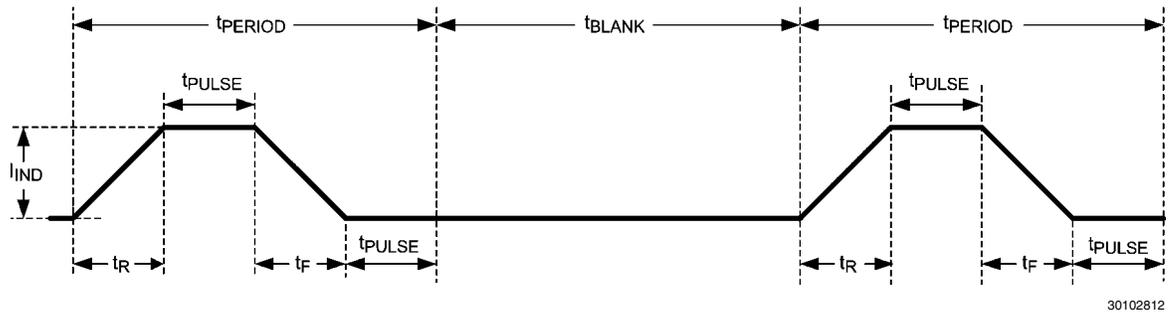

FIGURE 7. Message Indicator Timing Diagram
- Number of periods (PERIOD #). This has 8 steps. A period (t_{PERIOD}) is found by ($t_{\text{PERIOD}} = t_{\text{R}} + t_{\text{F}} + 2 \times t_{\text{PULSE}}$). (See Figure 7 for indicator timing).